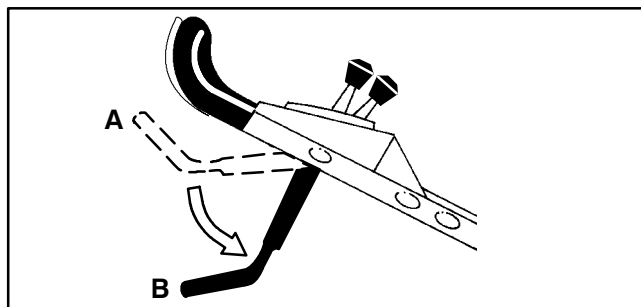

Figure 7
- 7.** Push control bar down to lowest position (Fig. 7, position B).